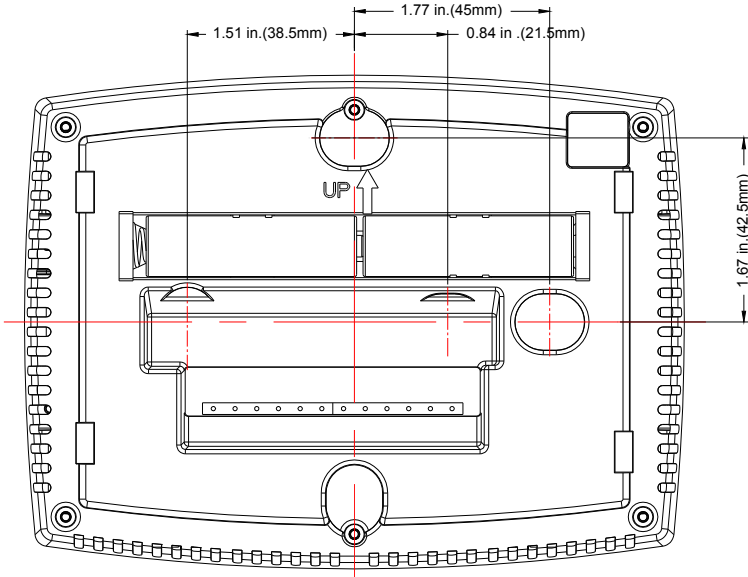

Fig. 2. Touchscreen Thermostat Back Case dimensions in inches. (mm).
2. EWT-3102/EWT-3103 Touchscreen Thermostat Back Case: see Fig. 2